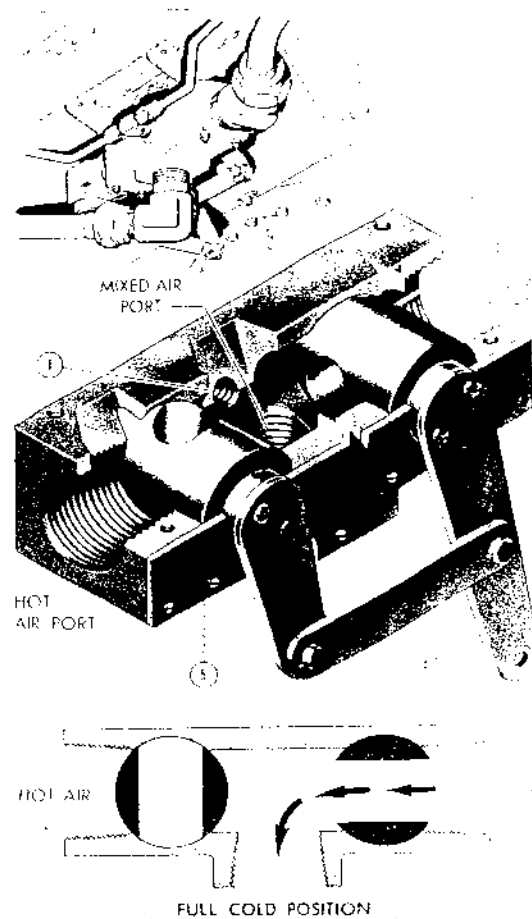

Figure 251 — Heat Control Valve
d. HEAT CONTROL VALVE (F-80A-1, F-80A-5, and RF-80A-5 Airplanes only). (See figure 251.)
(1) DESCRIPTION.—The heat control valve contains two plug valves in one body, both operated by one lever. The valve is located in the hydraulic compartment below the fuselage fuel tank. The operating lever of the valve is connected by a flexible control assembly to a cam in the air conditioning control assembly.